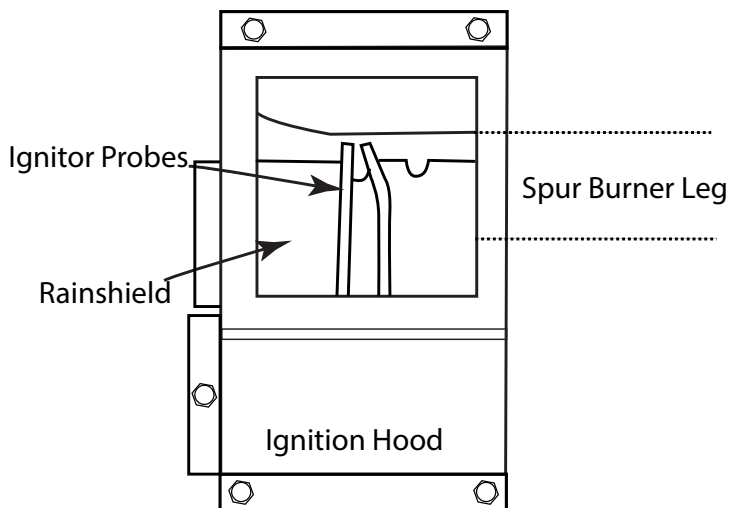

Fig. 14 Installing ignition hood.
Step 5: Install the ignition hood over top of the ignition probe assembly into the existing pre-punched holes of the burner pan by using the five #10 - 24 x 1/2" provided screws. (See Fig. 14).